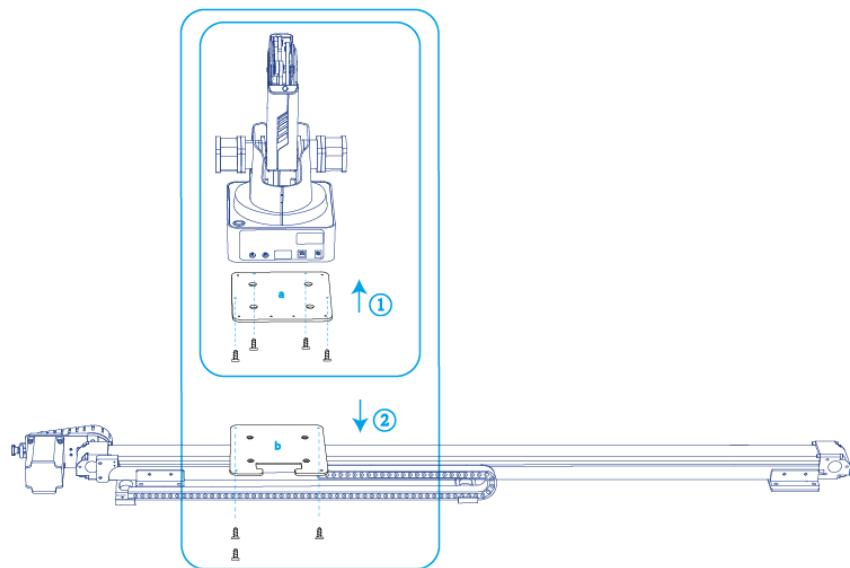

Figure 5.190 Fixed position with screws
**Step 2** Fix the plate **a** (with Dobot Magician) on the plate **b** with three M3\*8 hexagon socket head cap screws. Please make the back of the base of Dobot Magician towards the rabbet on the plate **b**, as shown in Figure 5.190.